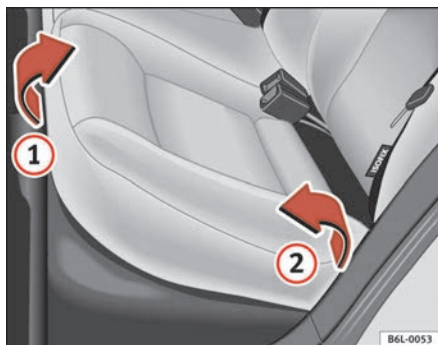
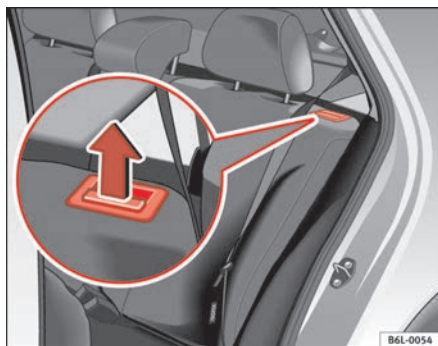

Fig. 71 Folding up the rear seat cushion
Fig. 72 Button for unlocking the rear backrest
- Pull the front edge of the seat cushion ⇒ **fig. 71** ① upwards in the direction of the arrow.
- Lift the cushion ② forwards in the direction of the arrow.
- Pull the release button ⇒ **fig. 72** in the direction of the arrow and fold the backrest forwards